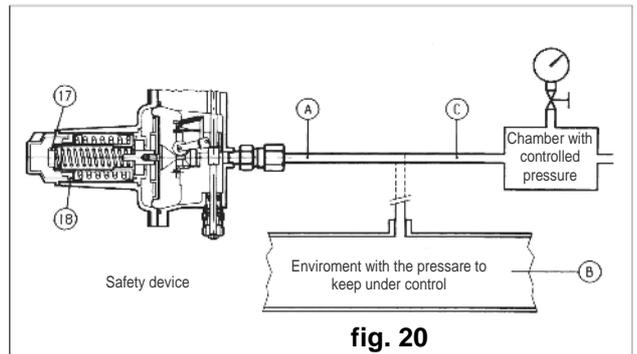

fig. 20
- B) On devices without the "push" valve (fig. 20) we recommend connecting the control head separately to a controlled auxiliary pressure and repeating the operations described above
- B) On devices without the "push" valve (fig. 20) we recommend connecting the control head separately to a controlled auxiliary pressure and repeating the operations described above.